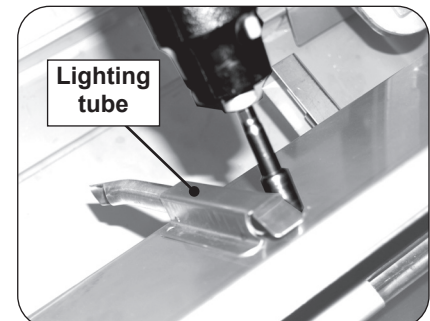

Fig. 1-2 Remove old lighting tube
5. Remove the lighting tube by removing the two screws with a 1/4" nut driver (see Fig. 1-2).